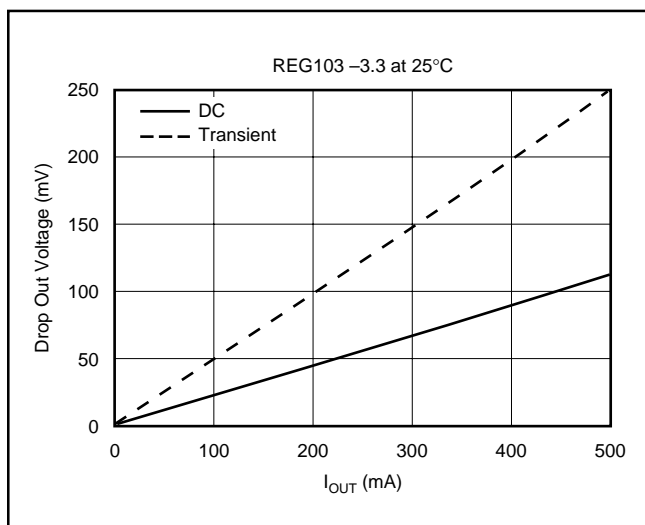

FIGURE 8. Transient and DC Dropout.
The REG104 uses an N-channel DMOS as the “pass” element. When the input voltage is within a few hundred millivolts of the output voltage, the DMOS device behaves like a resistor. Therefore, for low values of V_{IN} to V_{OUT} , the regulator’s input-to-output resistance is the R_{dSON} of the DMOS pass element (typically 230mΩ). For static (DC) loads, the REG104 will typically maintain regulation down to V_{IN} to V_{OUT} voltage drop of 230mV at full rated output current. In Figure 8, the bottom line (DC dropout) shows the minimum V_{IN} to V_{OUT} voltage drop required to prevent dropout under DC load conditions.
For large step changes in load current, the REG104 requires a larger voltage drop across it to avoid degraded transient response. The boundary of this “transient dropout” region is shown as the top line in Figure 8. Values of V_{IN} to V_{OUT} voltage drop above this line insure normal transient response.